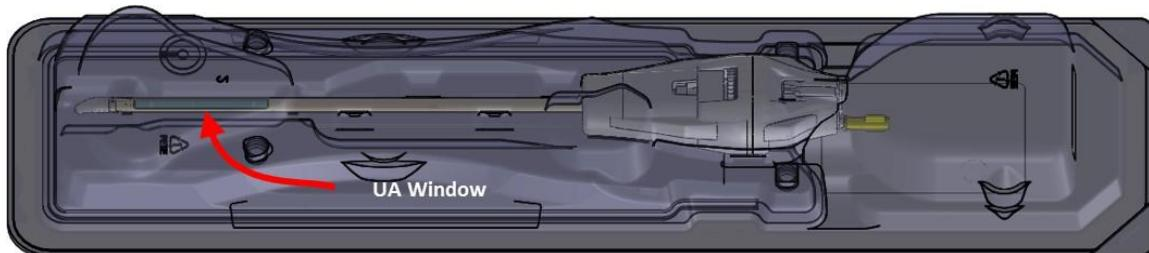

Figure 14: Examine the UA window for air bubbles
d. When the purge cycle is complete, look through the package and carefully inspect the UA window for bubbles while raising and lowering the tip of the UA (*Figure 14*). There should be **no** bubbles of **any** size. If you see bubbles, turn on the pump and gently tap the package-end close to the UA window to dislodge them. If you still see bubbles, repeat this step until all bubbles have been eliminated.